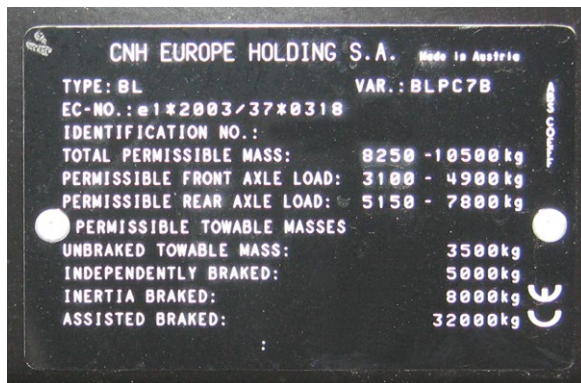

Figure 19: Image of a manufacturer's plate fitted. (RSA Library Image)
In no instance can you draw a trailer with a laden weight which exceeds the manufacturer's rated towing capacity of your tractor as detailed on its manufactures plate. An example of a manufacturer's plate is shown in Figure 19 below. This example shows that the vehicle has a towing capacity of 32,000kg provided the trailer is fitted with an assisted braking (that is, hydraulic or pneumatic) system.
8. Why are there a range of weights shown in Figure 19 above for the total permissible mass and permissible axle loadings?
10. My agricultural tractor is plated, but not with a manufacturer's plate like the one shown in Figure 19 above indicating its 'Permissible Towable Masses'. What rules must I follow regarding the maximum laden weight of a trailer or piece of interchangeable towed equipment that I can legally tow?